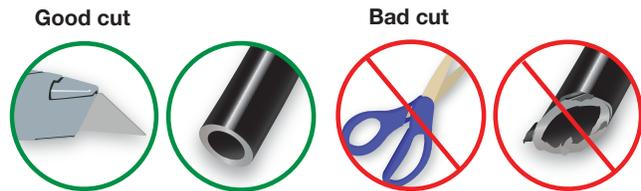

Fig. 18
1. For nylon air line (*), it is recommended that the air line be routed along the top of the frame, forward of the axle, then down to the fitting. After cutting the air line to length, install the air line thermal sleeve over the air line on the passenger's (right) side before inserting into the fitting. Secure the air lines to the upper coil spring mount with zip ties (BB) supplied.
2. Cut the air line in half. Make clean, square cuts with a razor blade or hose cutter (Fig. 18). Do not use scissors or wire cutters.